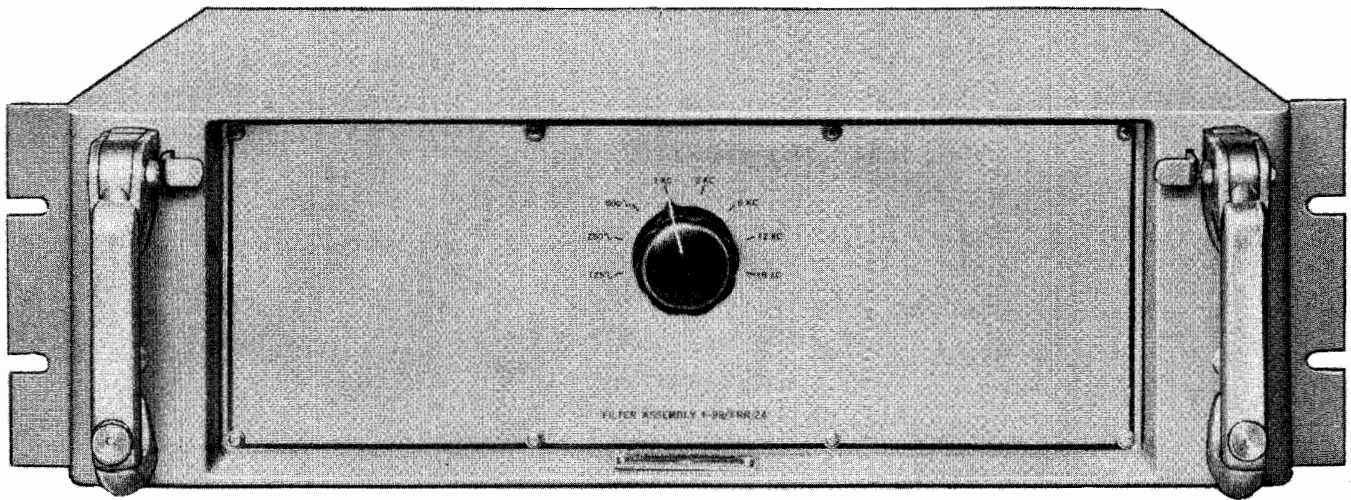

Figure 1-8. Filter Assembly F-99/FRR-24
(4) FILTER ASSEMBLY F-99/FRR-24. (See Figures 1-8 and 1-9).—The Filter Assembly F-99/FRR-24 provides no gain to the receiver but affords a means of selecting one of eight bandwidths to cope with varying receiving conditions during A1, A2, A3, F1 or F4 reception. The purpose of this unit is to